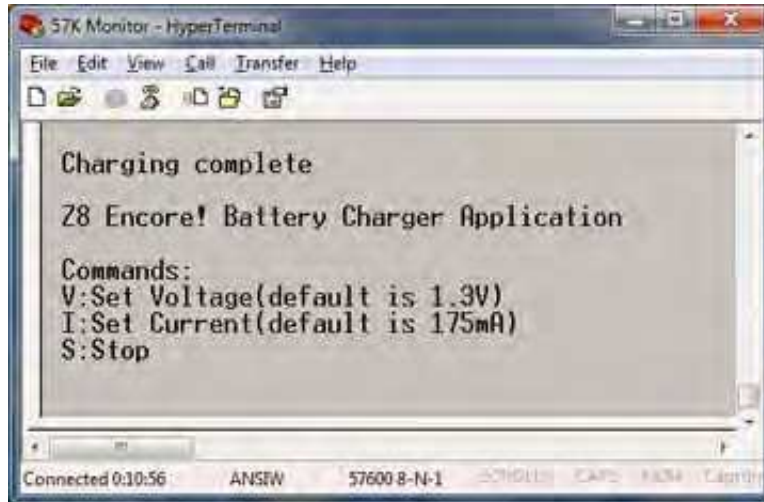

Figure 8. "Charging is Complete" Message
- b. If the battery voltage level is above the default SET_VOLTAGE level of 1.3V, the GREEN LED will be ON, and the *Charging complete* message shown in Figure 8 will be displayed.